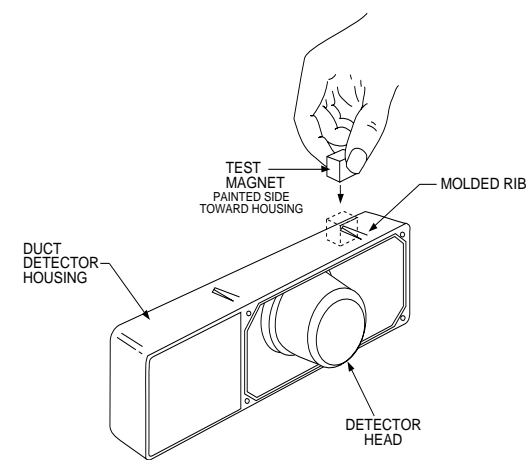

Figure 7. Testing Detector Alarm
Place the magnet in position as shown in Figure 7. The LEDs on the detector should light. Any accessory LED(s) will also light. The system control panel should indicate an alarm condition.
2. Place the painted surface of the test magnet against the housing next to the rib molded onto the outside of the housing (see Figure 7).